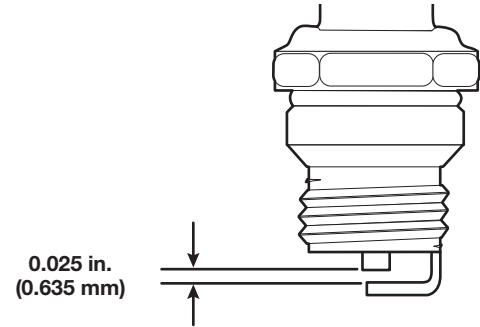

Fig. 17
5. Use a feeler gauge to set the air gap at **0.025 in. (0.635 mm)** (Fig. 17).